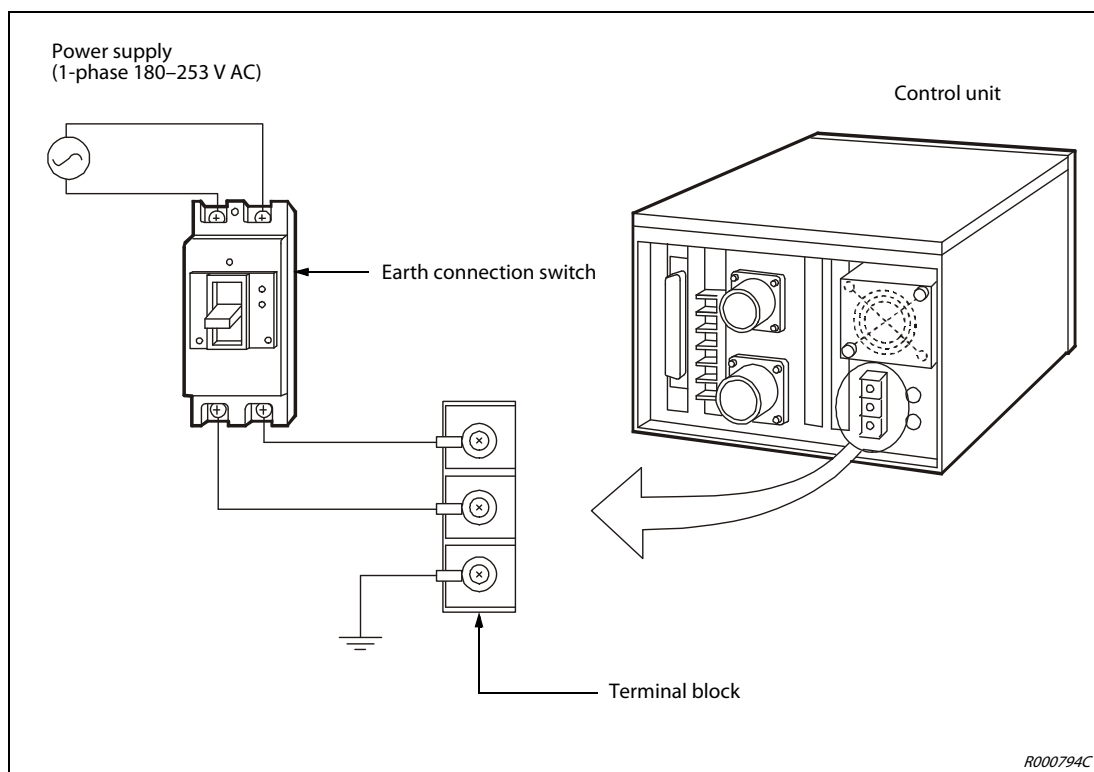

Fig. 4-3: Connect the mains line and earth to the control unit
- ① Make sure that the mains voltage and the power switch of the control unit are switched off.
- ② Make ready the mains line and the earthing cable. Use a cable with a minimum cross-section of 2 mm².
- ③ Release the two cover screws of the terminal block and remove the cover.
- ④ Connect the power supply cable according to the Fig. 4-3 on the terminals of the terminal block.